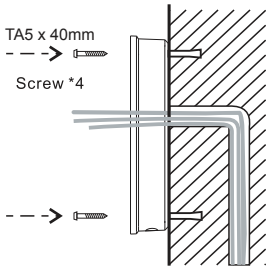

Figure 6
- B. With 4 TA5 x 40mm screws, tighten the back panel on the wall as shown in Figure 6.